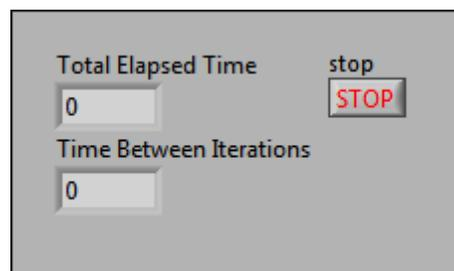
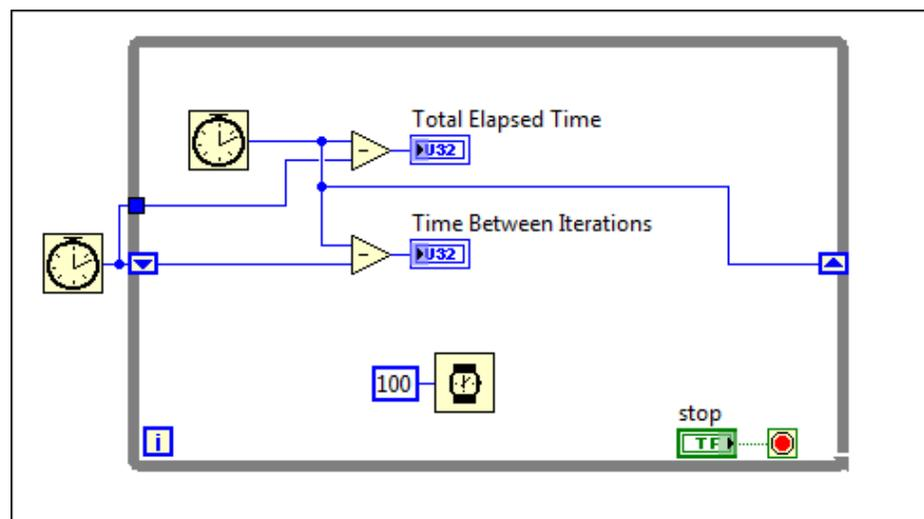

Figure 1. Elapsed Time VI Front Panel
Figure 2. Elapsed Time VI Block Diagram
The finished VI is shown in Figure 1 and Figure 2.
3. Add two Numeric Indicators to the front panel, as shown in Figure 1.
- Add two **Subtract** functions inside the loop, one above the other, as shown in Figure 2.